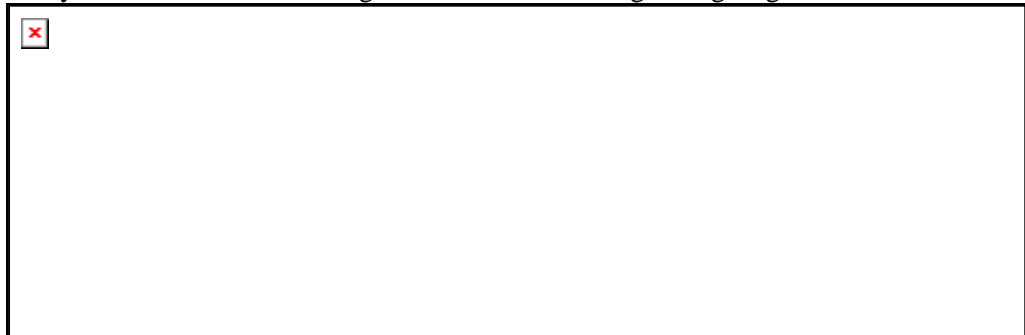

fig. 16: Program flow „Auto. diameter adjust“
- Proceed parameter function *Auto. diameter adjustment* (ref. to „11. Parametrisation“ and fig. 16). Input the actual reel diameter into „1. diameter“. After confirmation with ↵ key the diameter is saved together with the referring voltage signal.
- Proceed parameter function *Auto. diameter adjustment* (ref. to „11. Parametrisation“ and fig. 16). Input the actual reel diameter into „2. diameter“. After confirmation with ↵ key the diameter is saved together with the referring voltage signal.